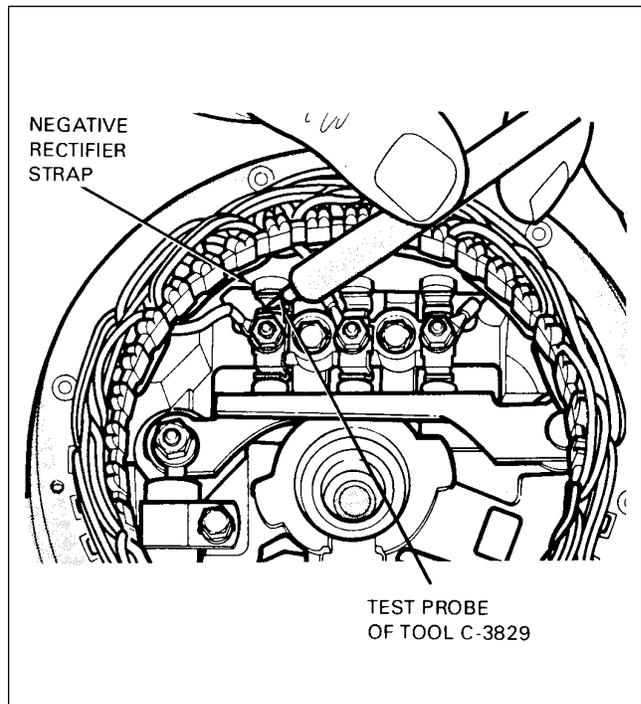

Figure 24-6. Testing Negative Rectifiers With C-3829 Tester
**TESTING OF NEGATIVE RECTIFIERS USING C-3829 TESTER.** (Refer to Figure 24-6.)